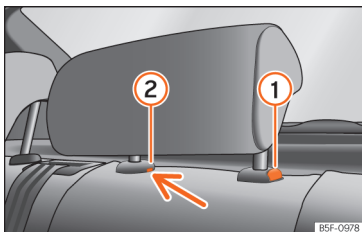

Fig. 149 Rear centre head restraint: release point.
- To set the head restraint lower down, press the ① » » » Fig. 149 button and move it downwards.